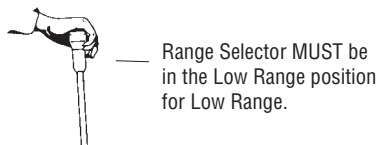

Figure 2-2.
6. Make sure the Range Selector is down in the low range position (Figure 2-2).